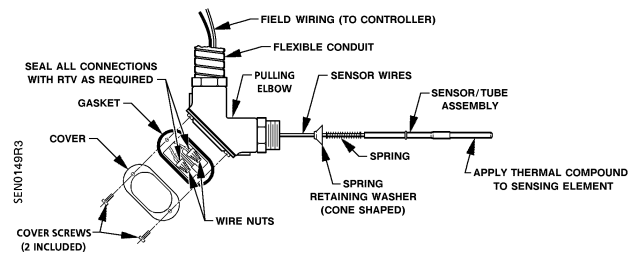

Figure 1. Sensor Assembly.
4. Assemble the spring and spring retaining washer onto the sensor support tube and pass the lead wires of the sensor through the tube. See Figure 1.